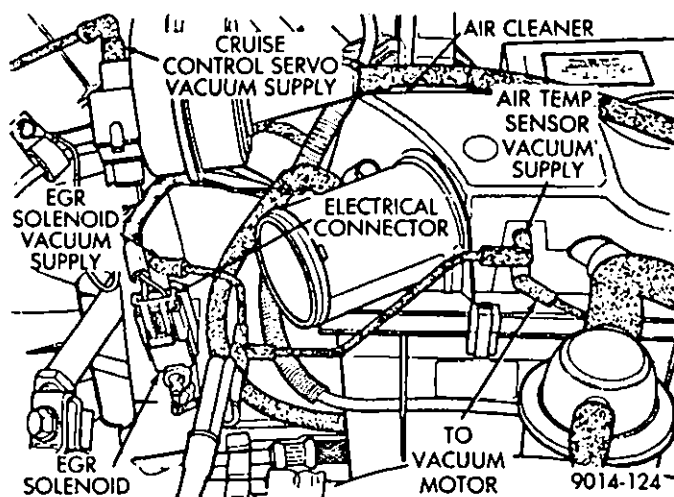
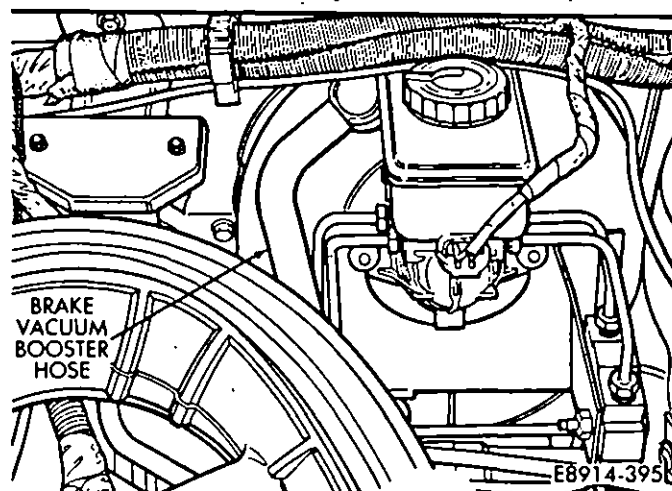

Fig. 23—TVS, EGR Solenoid and Cruise Control Servo Vacuum Tubes
Fig. 24—Brake Vacuum Booster Hose
(6) Verify that the thermal vacuum switch vacuum (TVS) supply tube and the TVS to vacuum motor vacuum tube are connected to the thermal vacuum switch (TVS) in the air cleaner cover (Fig. 23).
(7) Inspect the vacuum tube and electrical connections at the EGR valve vacuum solenoid (Fig. 23). Ensure that they are tight.
(8) Verify that the cruise control servo vacuum supply tube is connected to the servo.
(9) Inspect the brake vacuum booster hose connections at the vacuum booster and below the throttle body (Fig. 24).